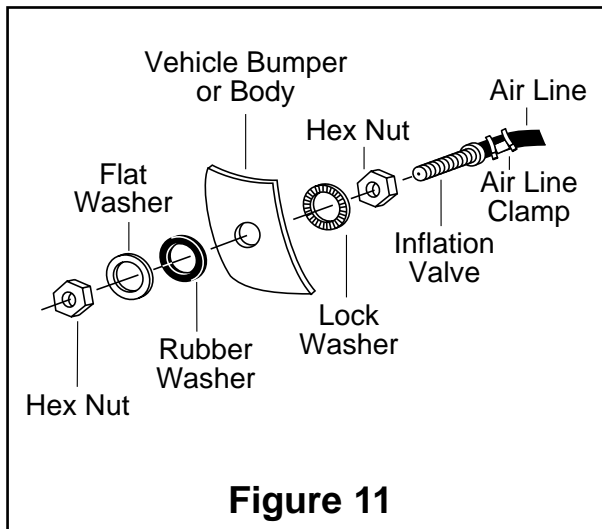

Figure 11
- J. Drill a 5/16" hole for inflation valve and mount as in illustration (Figure 11). Rubber washer is for outside weather seal.
- G. Drill 5/16" hole for inflating valves and mount as illustrated. Rubber washer is for outside weather seal (Figure 11).